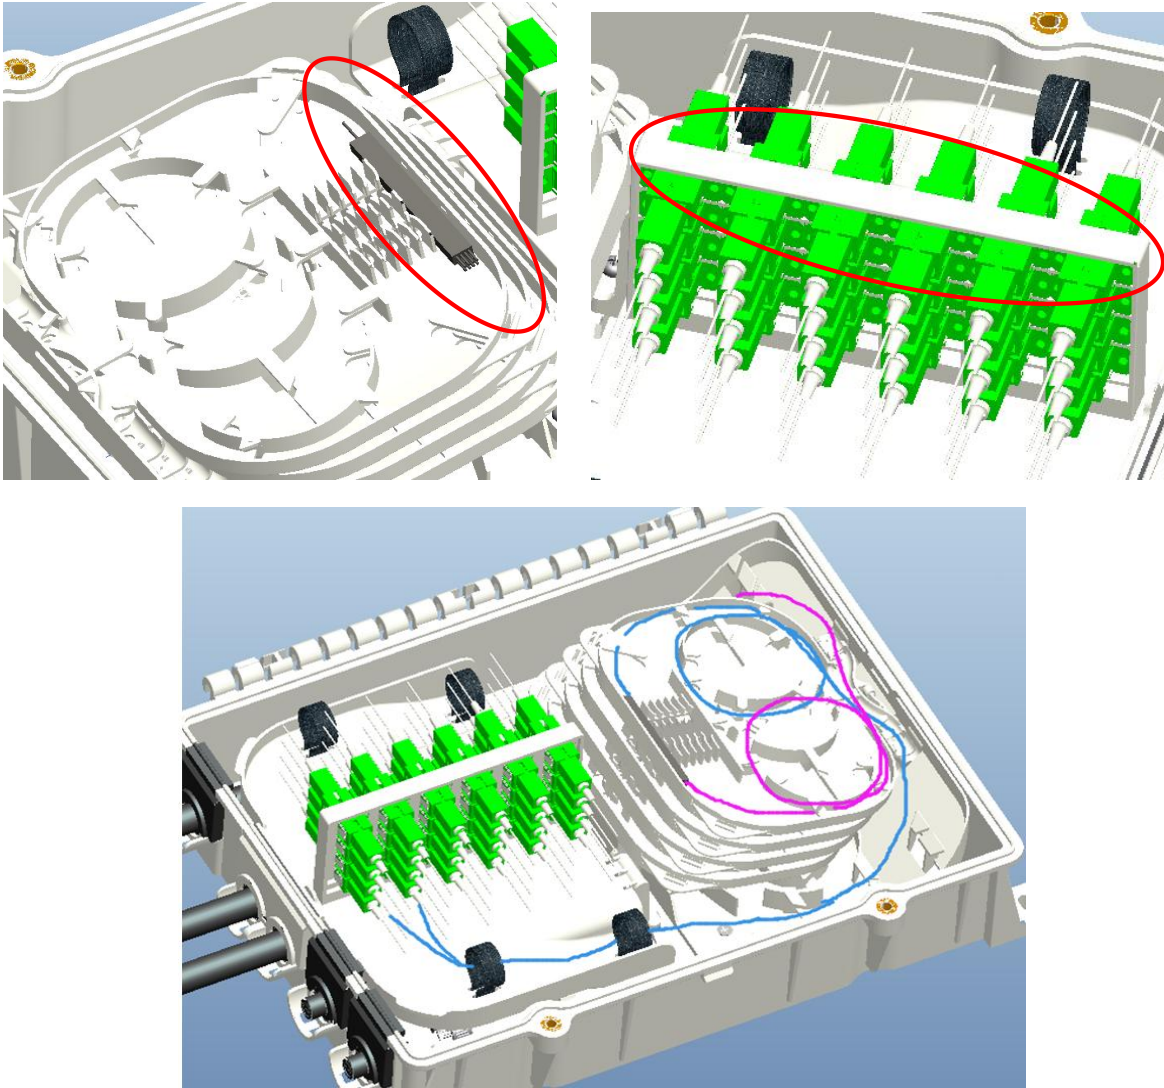

Figure 4
**3.5** If needed installation splitter, the splitter can be fixed in the slot of the splice tray first, and the reserve fiber is coiled in the splice tray, the output pigtail is inserted into the adapter panel, and the input pigtail is introduced into the splice tray, waiting for the next step to splice with the branch fiber. It can also carry out the wiring connection of ordinary cable according to needs. The routing is as follows. See Figure 4.